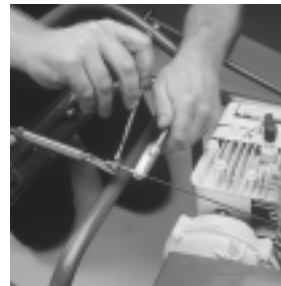

Figure 14
4. Adjust cable to obtain $\frac{3}{4}$ " to $1\frac{1}{4}$ " extension of the clutch spring when clutch is engaged. (see Figure 14).